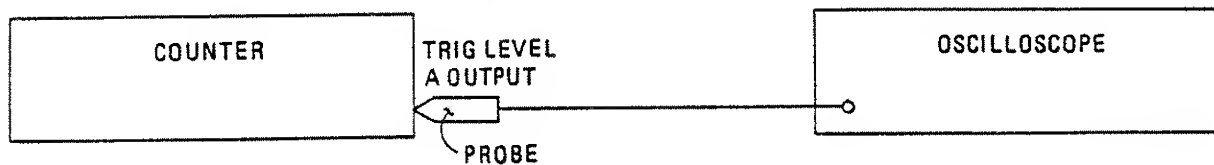

Fig. 6.17 Connections for Trigger Level PVP (II)
- (1) Connect the test equipment as shown in Figure 6.17.